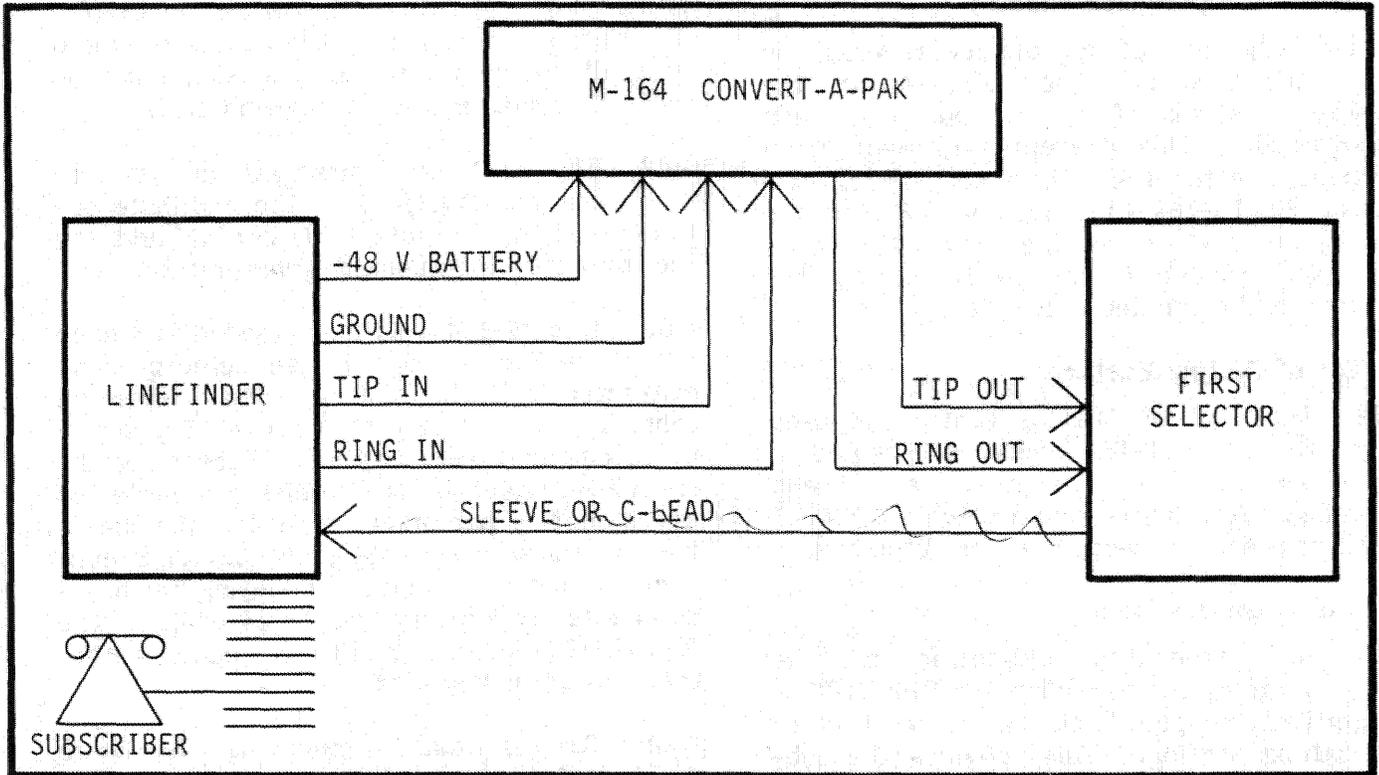

Figure 2 System Connections
- Installation requires connecting only the Tip and Ring pair leads and the battery and ground leads (see figure 2).